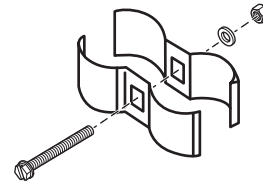

Figure 8
- The plumbing must be self-supporting and secure to avoid movement. A piece of metal or a ground strap is secured to both the inlet and outlet pipes, see the below Figure 8: